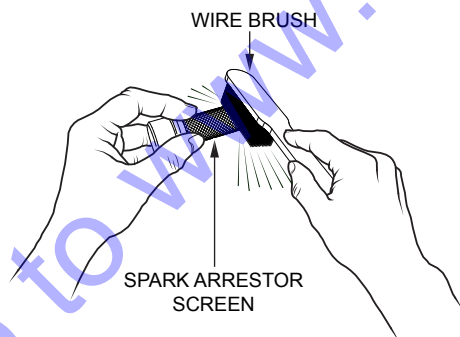

Figure 39. Cleaning The Spark Arrester
2. Remove the 5 mm screw (4) from the muffler protector, then remove the muffler protector.
3. Carefully remove carbon deposits from the spark arrester screen (Figure 39) with a wire brush